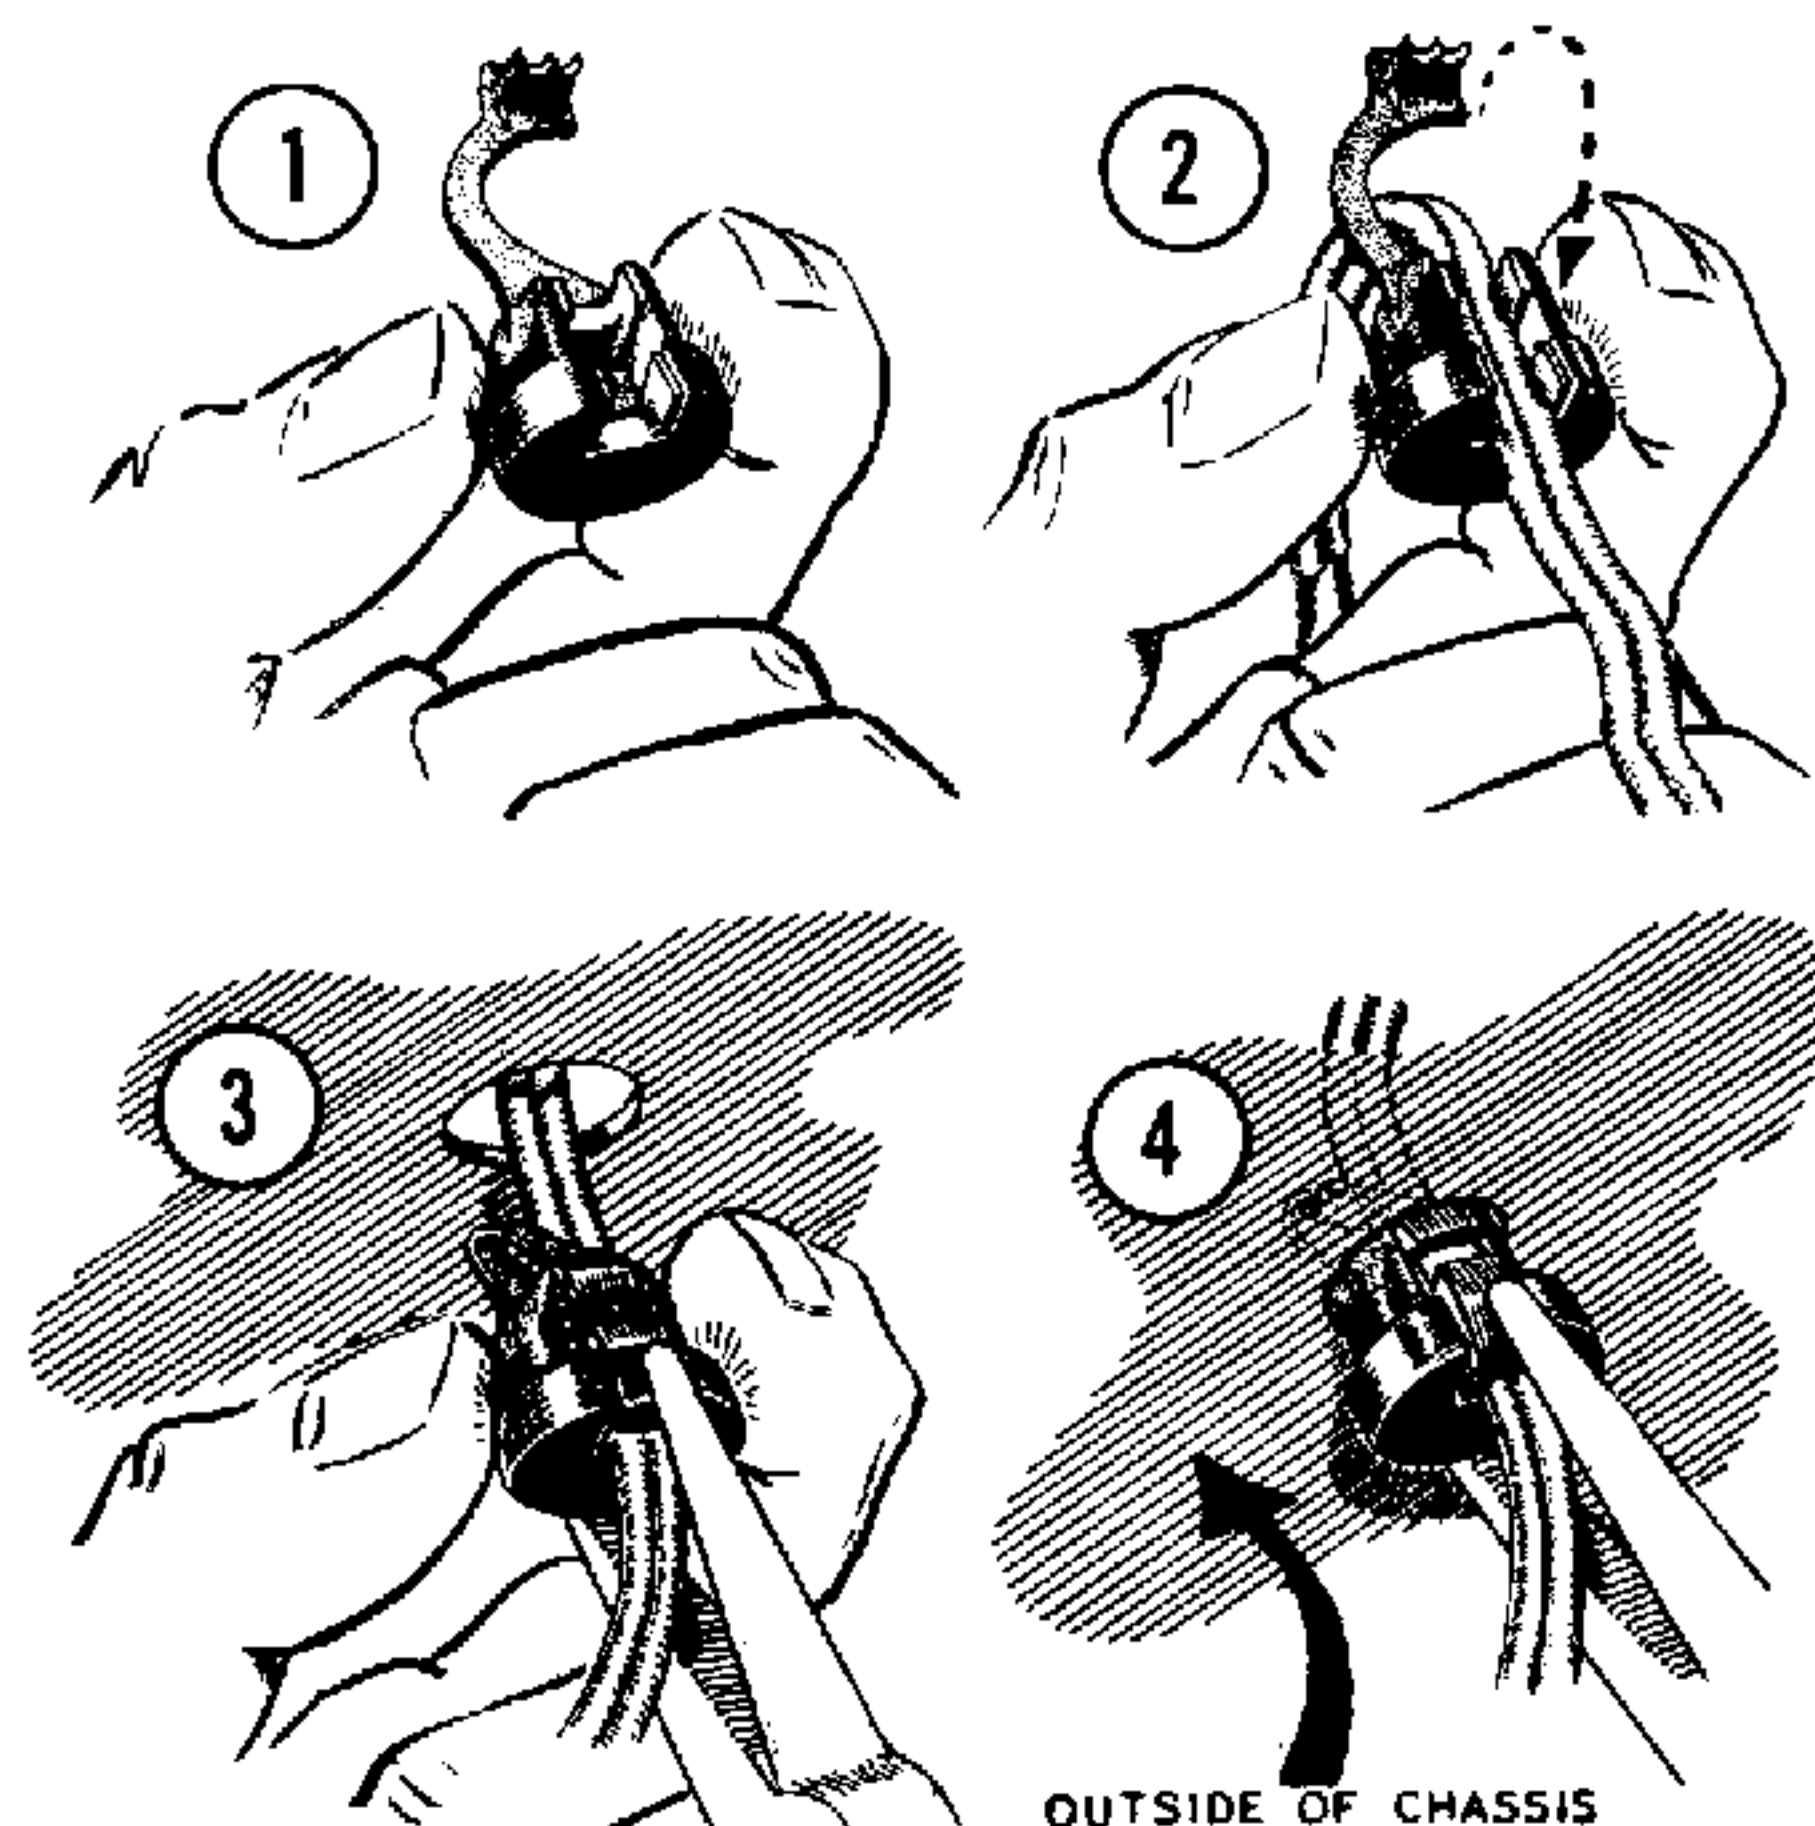

Figure 23
- () Referring to Figure 23, mount the line cord and line cord strain relief in hole U. Leave 1-1/2" of wire inside the chassis.